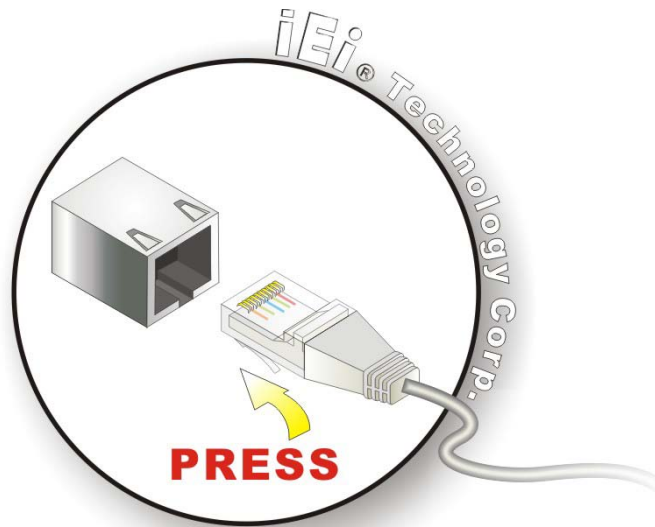

Figure 3-23: LAN Connection
- Step 2:** **Align the connectors.** Align the RJ-45 connector on the LAN cable with one of the RJ-45 connectors on the UPC-V315-NM70. See **Figure 3-23**.